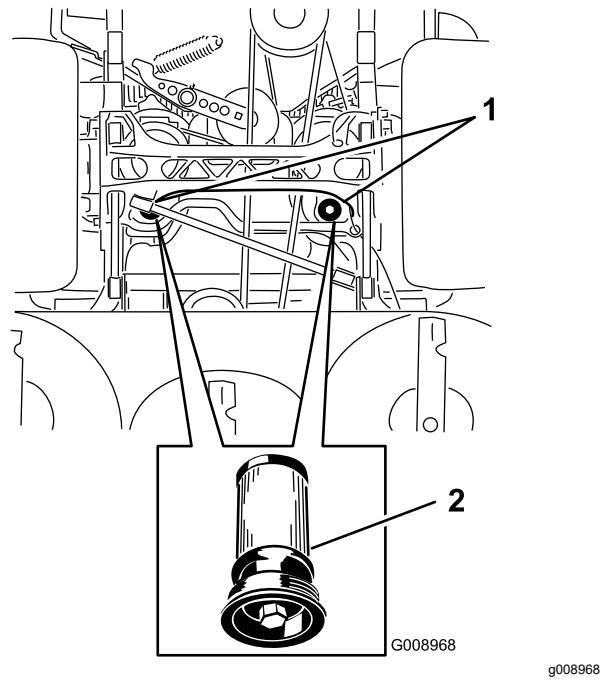

Figure 112
5. Place a drain pan under the filter, remove the old filter, and wipe the surface clean (Figure 112).
6. Apply a thin coat of hydraulic fluid to the rubber gasket on the replacement filter (Figure 112).